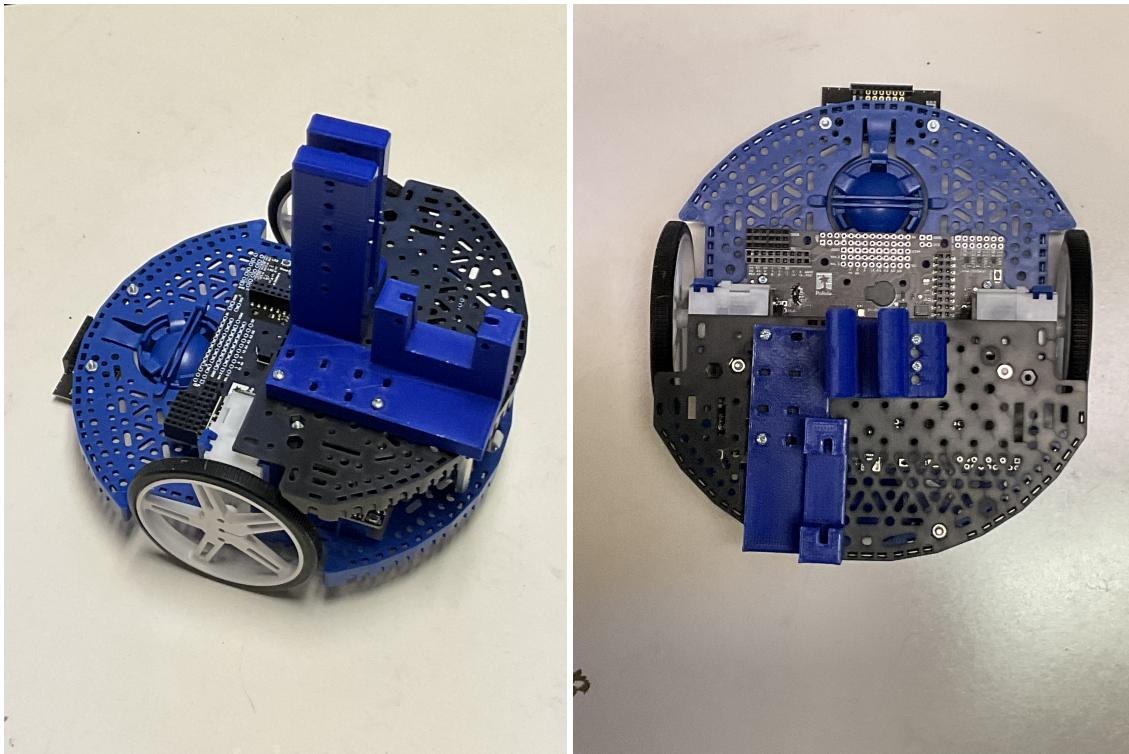
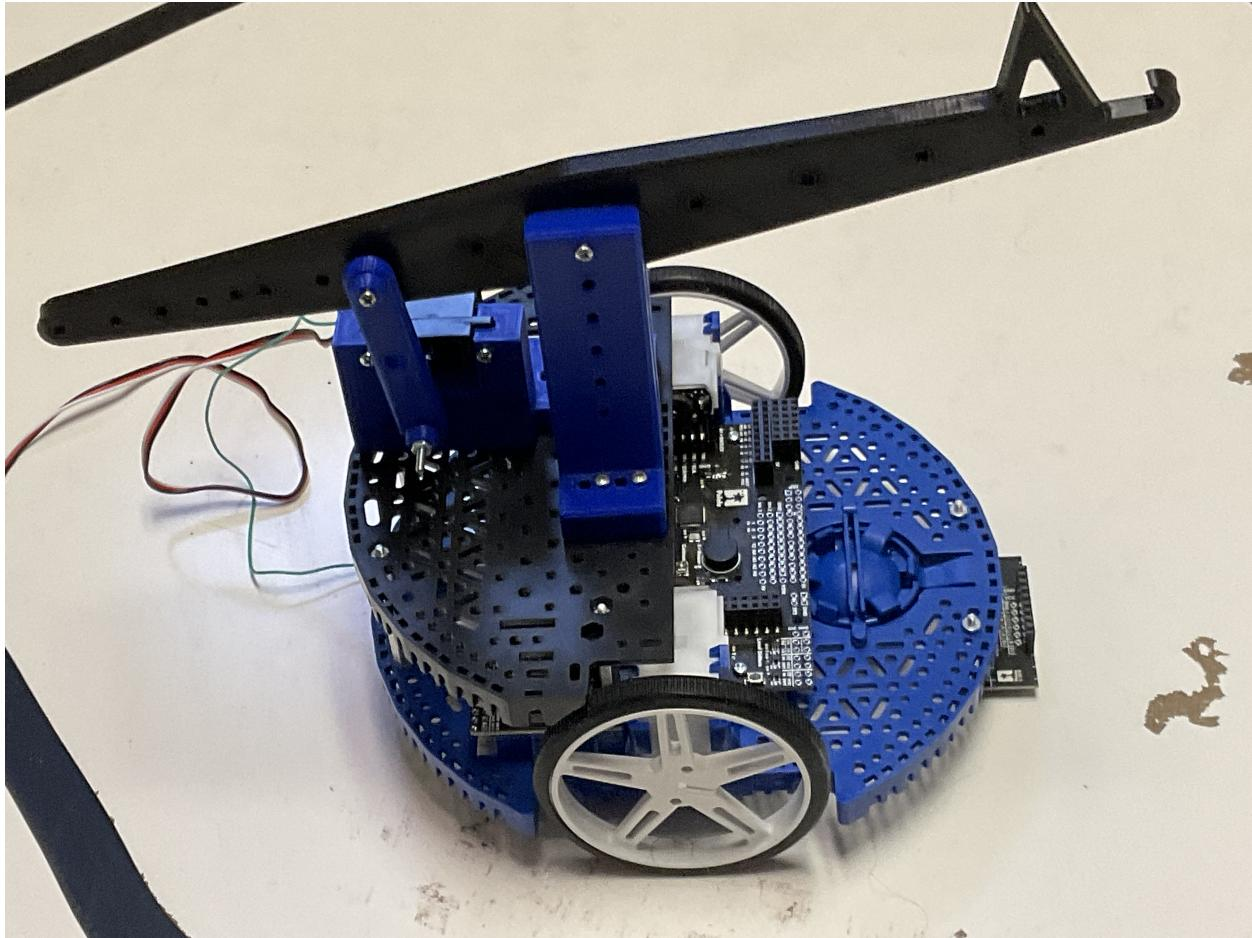

Figure 4: Servo and arm mounts mounted. Once you install the mounts, you can attach the expansion plate to the base, as shown in this figure.
Figure 8: Romi with arm assembly complete.
2. Attach the servo and arm mounts to the expansion plate with 3/4" screws. Relative alignment is important so that the coupler can connect the servo horn to the arm. Figure 8 shows what you are working towards. Figure 4 shows a nominal configuration for the mounts. Once the
6. If you haven't already done so, attach the expansion plate/arm assembly to the Romi base, as shown in Figure 8.